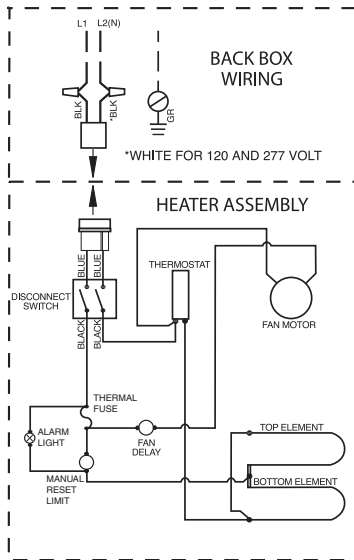

Figure 3
1. Following wiring diagram, (Figure 3) connect supply wiring to heater leadwires in back box.